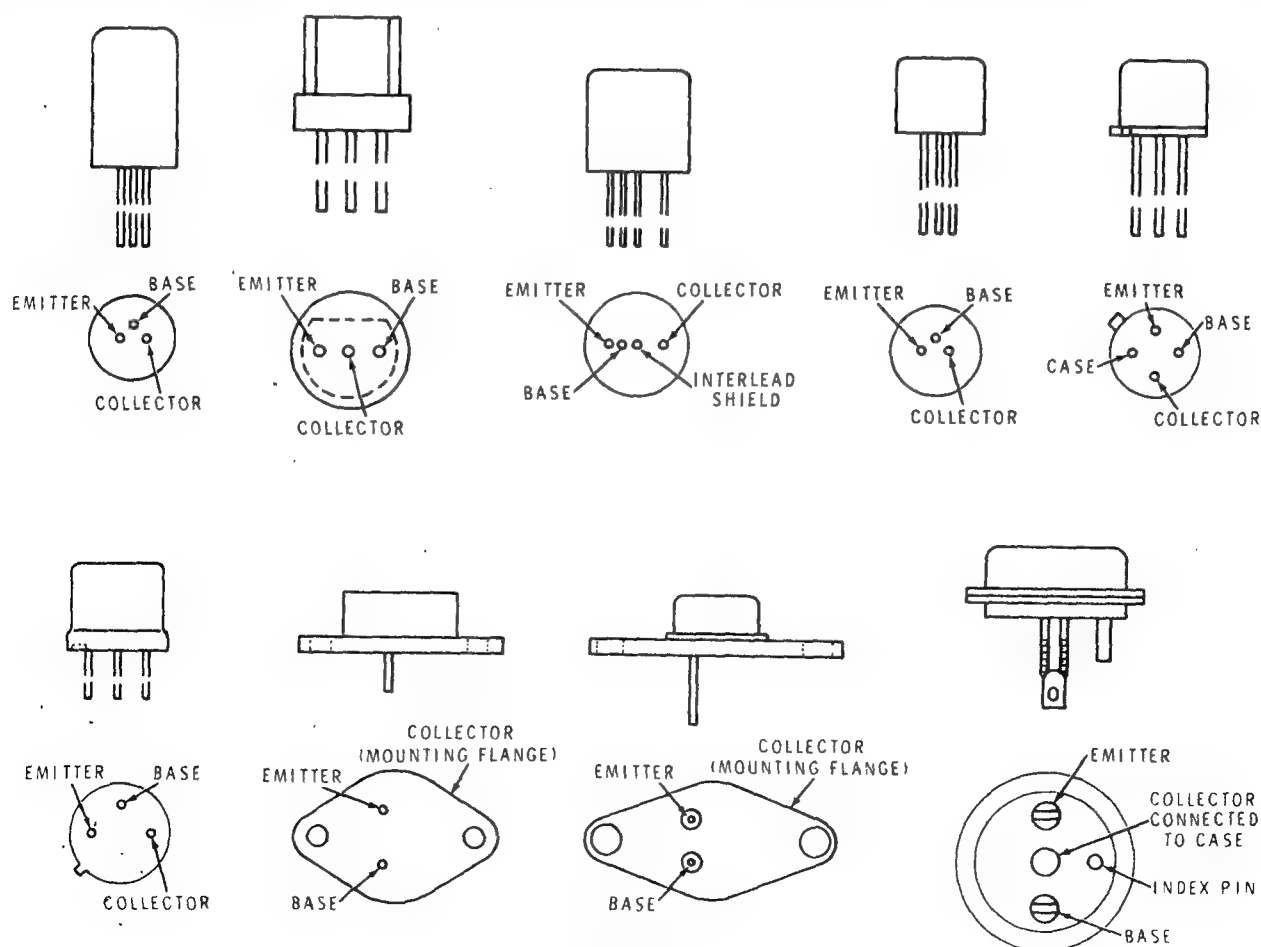

Figure 3
Refer to Figure 3 to identify the emitter (E), base (B), and collector (C) leads of several different types of transistors.